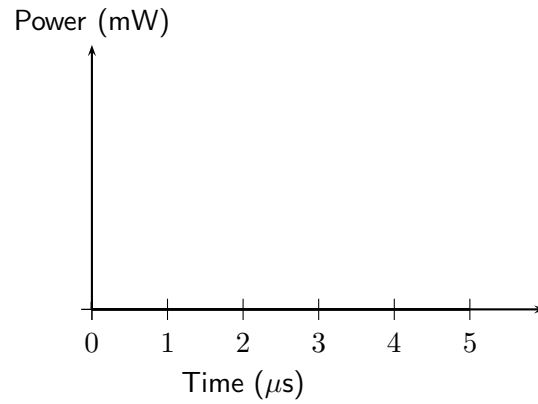

Abbildung 27: Diagram for Aufgabe 3.3 (a)
- (a) (5 Punkte) Plot the power consumption of the three systems when executing task τ . Please use Figure 27. Calculate the energy-delay products for the three systems when executing task τ .